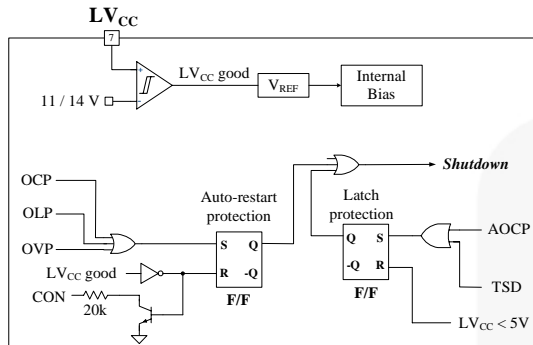

Figure 27. Protection Blocks
**5. Protection Circuits:** The FSFR-series has several self-protective functions, such as Overload Protection (OLP), Over-Current Protection (OCP), Abnormal Over-Current Protection (AOCP), Over-Voltage Protection (OVP), and Thermal Shutdown (TSD). OLP, OCP, and OVP are auto-restart mode protections; while AOCP and TSD are latch-mode protections, as shown in Figure 27.